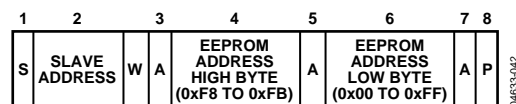

Figure 37. Setting an EEPROM Address
- To set up a 2-byte EEPROM address for a subsequent read, write, block read, block write, or page erase. In this case, the command byte is the high byte of the EEPROM address from 0xF8 to 0xFB. The only data byte is the low byte of the EEPROM address, as shown in Figure 37.